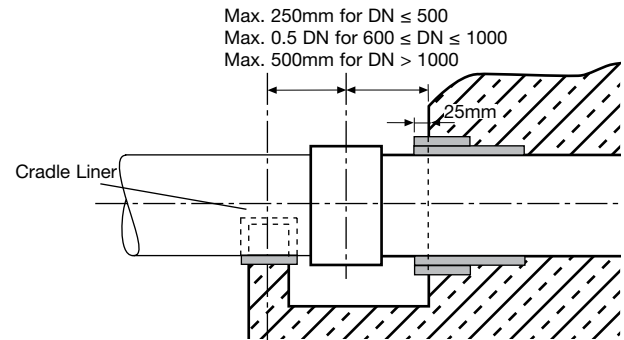
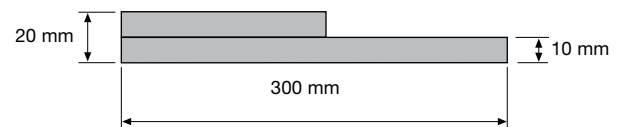

Figure 6-4 Alternate B: Rubber wraps
Figure 6-5 Rubber wrap configuration – Rubber should have 50-60 Shore A hardness
Where A is not possible, wrap (**Figure 6-4**) a band (or bands) of rubber (**Table 6-3 and Figure 6-5**) around the pipe prior to placement of any concrete such that the rubber slightly protrudes (25mm) from the concrete. Lay out the pipeline so the first completely exposed coupling joint is located as shown in **Figure 6-4**. Precautions must be taken to minimize the settlement of the reinforced concrete structure or pipe by providing an adequate foundation. Differential settlement in the pipe will cause stresses in the pipe and may cause pipe failure.
- 1 Position as shown in **Figures 6-4** and **6-5**.